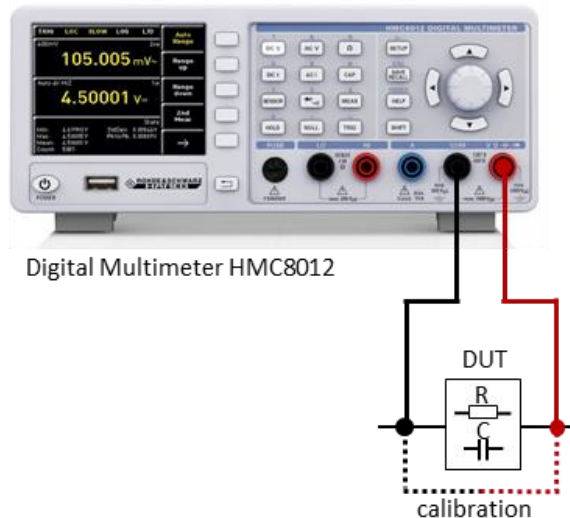

Fig. 2-10: Resistance and capacitance measurement using an HMC8012 digital multimeter.
- At the front of the instrument, connect the test cable to the appropriate sockets **COM** and **V** as shown in Fig. 2-10.